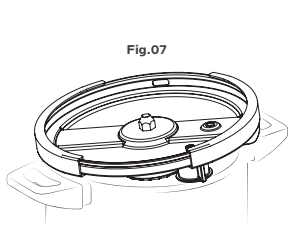

Fig.07
**6.** After cleaning and drying it, store the cooker uncovered or with the lid turned upside down to prevent deformations of the sealing ring. (**Fig.07**)